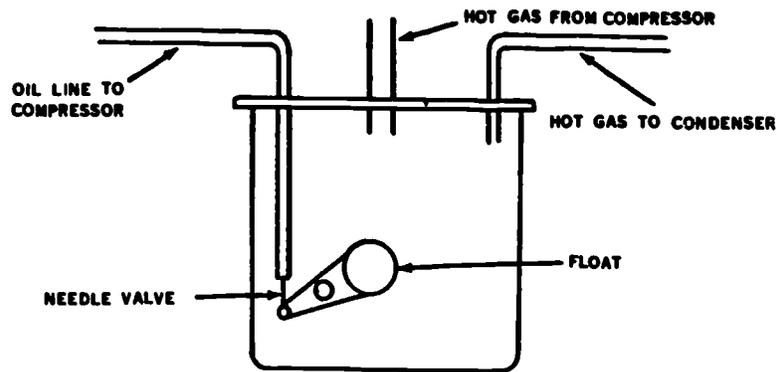

Fig 3-30. Oil separator.
**OIL SEPARATORS**, as the name implies, separate the oil from the refrigerant vapor. Compressors need lubrication, but there is a chance that too much oil will leave the compressor, since it pumps oil along with the vapor. Therefore, an oil separator is used. An oil separator consists of an enclosed steel cylinder with a float and a needle valve inside. It also has a gas line from the compressor, a gas line to the condenser, and an oil return line to the compressor crankcase, see figure 3-30.